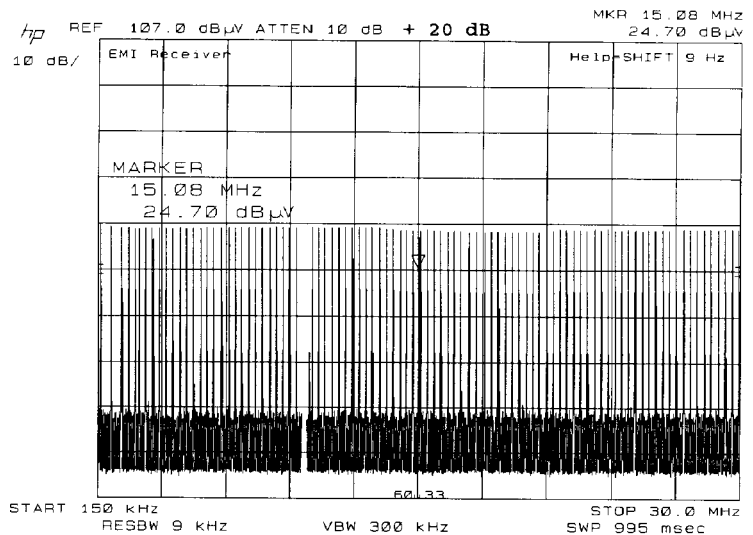

Figure 5-1. Quasi-Peak Measurement Using the HP 85867A DLP
- To start the DLP, press **(SHIFT) 4 (Hz)** on the spectrum analyzer. Notice that **EMI Receiver** appears in the upper left portion of the display, indicating that the DLP is activated. Refer to Figure 5-1.
- The DLP places a marker on the measured signal, and displays the quasi-peak amplitude at the bottom of the display (directly under the measured signal). See Figure 5-1.